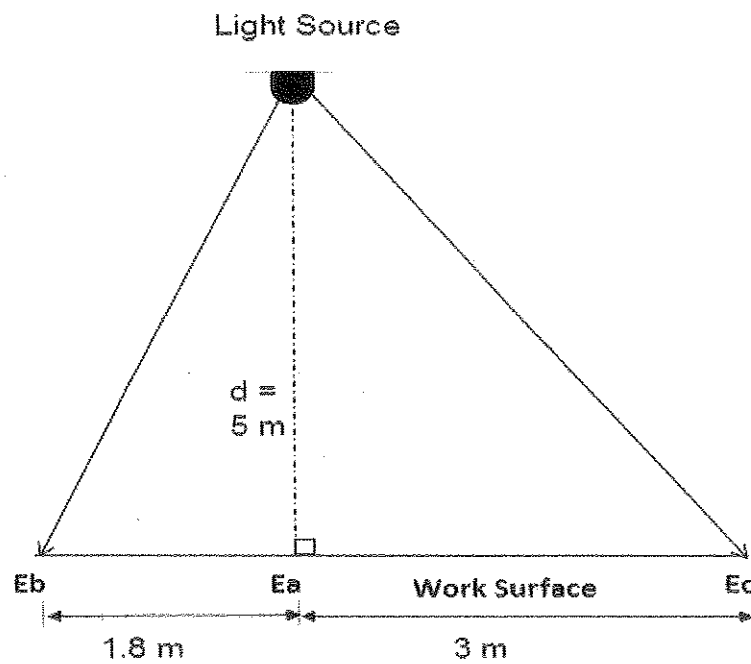

Figure QB2
- (c) A light point source with the luminous intensity given as $I = 1000 (1 + 2 \cos \theta)$ is mounted 5 metres above the work surface as shown in **Figure QB2**.